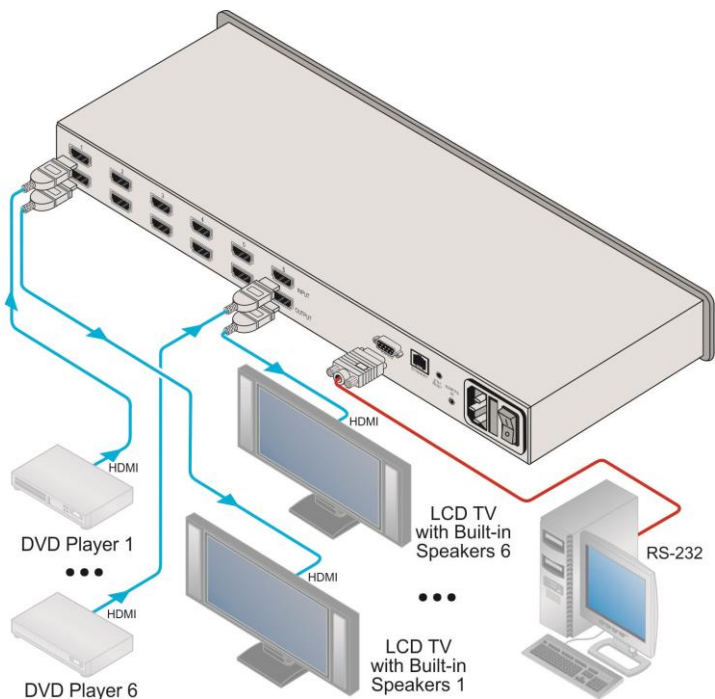

Figure 3: Connecting the VS-66HN 6x6 HDMI Matrix Switcher
To connect the **VS-66HN 6x6 HDMI Matrix Switcher** as illustrated in the example in Figure 3:
4. Connect the device to the mains electricity (not shown in Figure 3).